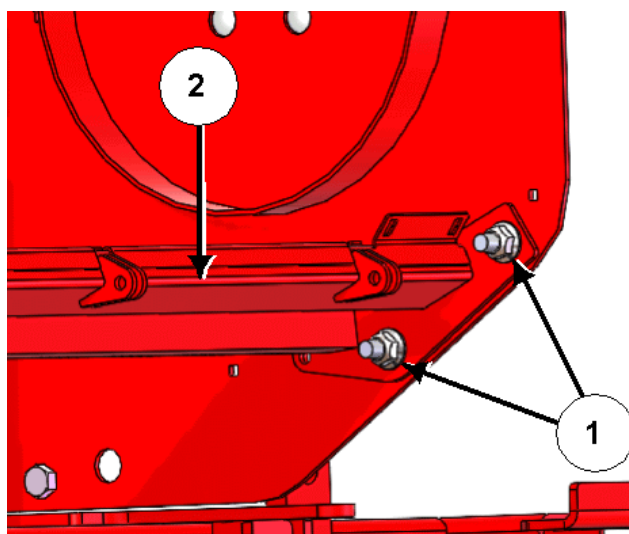

Figure 19: Fasten lower sheet to rear tub wall
- a. Use the previously removed hardware (1) to fasten the rear side of the lower sheet (2) to the rear tub wall, supporting the opposite end; see *Figure 19*.